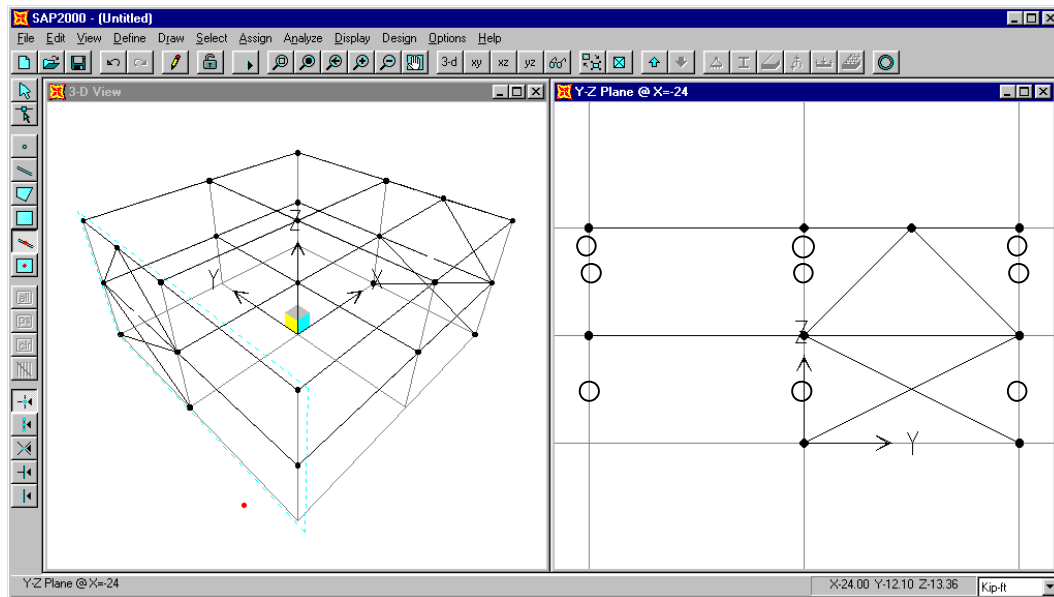

Figure C-14: Model After Braces Have Been Drawn
38. Repeat steps 32 through 36 to draw the second set of braces. Note that the second set of braces occurs on the right-hand side of the elevation. The model now appears as shown in Figure C-14.
39. Now we will draw the columns. Click the six column grid line locations designated with an O in Figure C-14 to define the first line of columns.